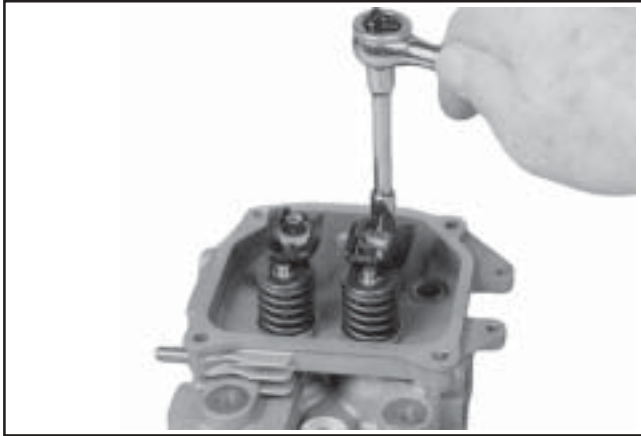

Figure 9-56. Removing Rocker Arms.
1. Remove the two hex flange screws, rocker arm pivots and rocker arms from the cylinder head. See Figure 9-56.